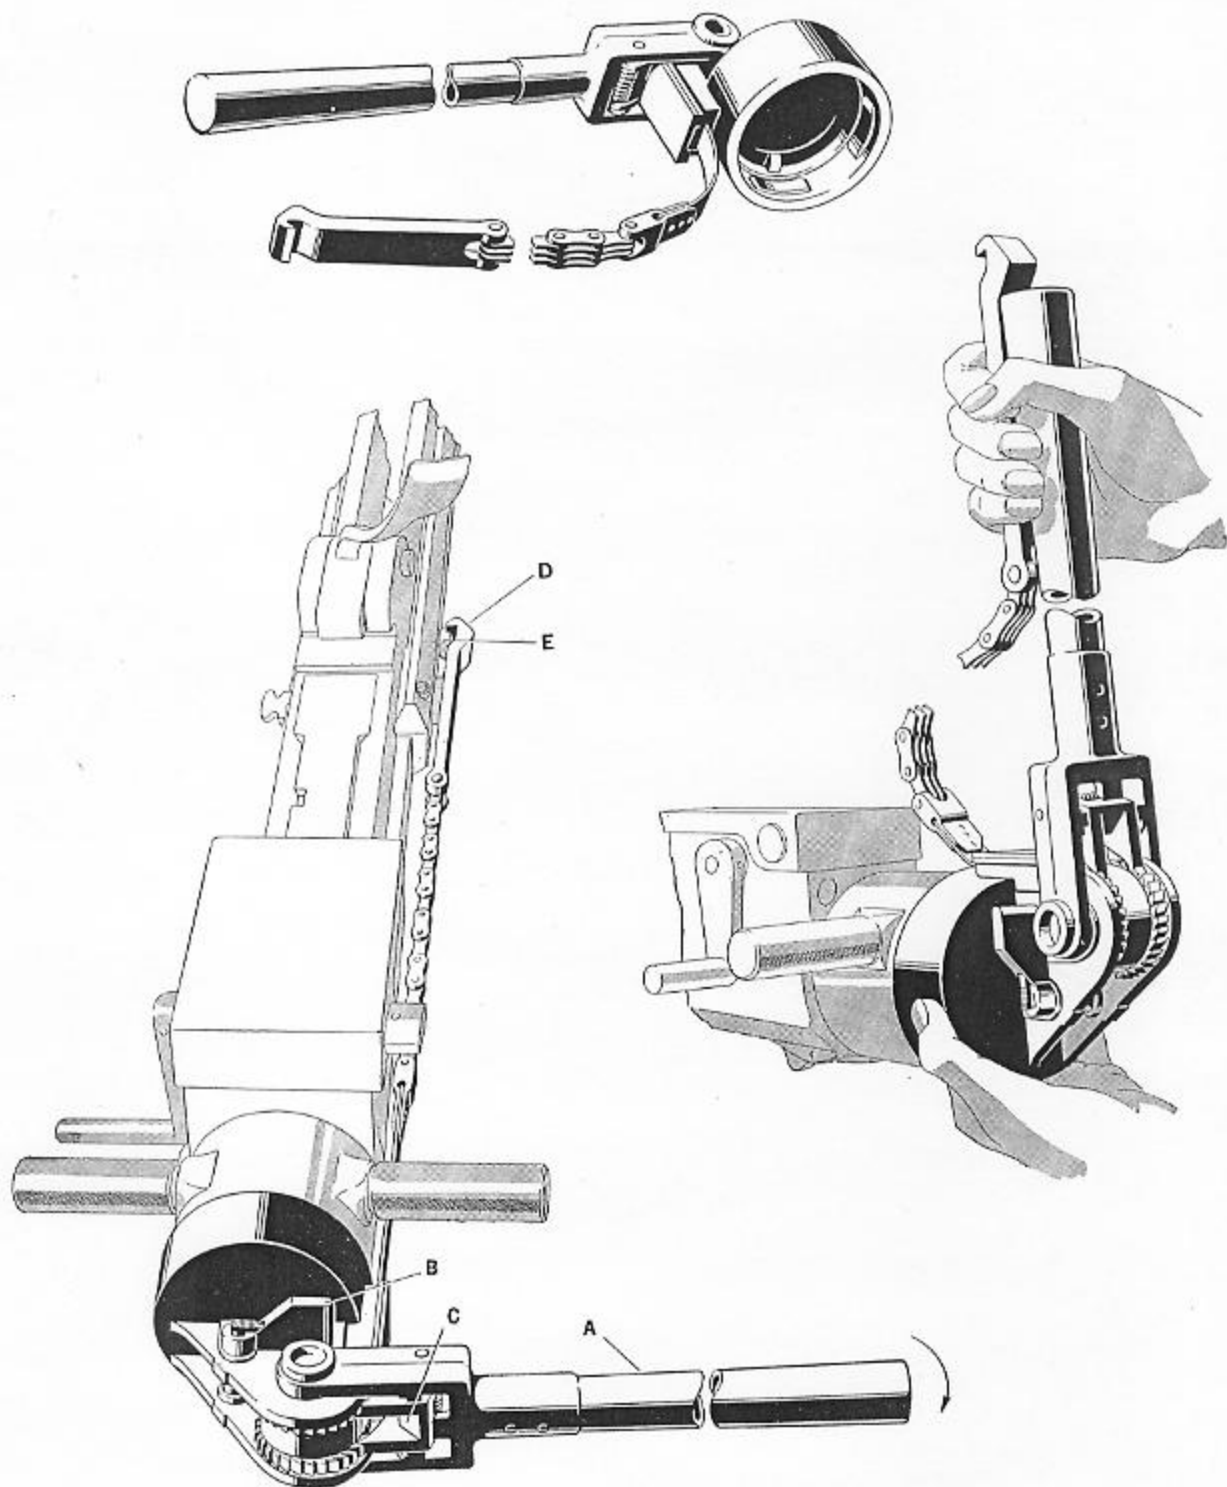

Figure 84—Hand Cocking Tool Mark 1
Still another cocking device, which is in limited service, is the ratchet type cocking tool. See Figure 84. This can be used only on gun mechanisms which are fitted with the hand cocking catch plate (OE-1044) on the rear end of the right breech bar, and the separate hand grips (OE-1036). The tool is attached to the rear end of the gun after removing the shoulder rest from the hand grips.
After attaching the device to the hand grips, attach the hook (E), Figure 84, on the end of the chain to catch plate (OE-1044) (D) on the right breech block. Move the ratchet handle (A) back and forth until the breech pawls can be heard to click over the parallelogram bottom levers when the breech block has been pulled far enough to the rear. Then ease off on the handle until the sear (OE-1317) engages trigger hook (OE-1216).